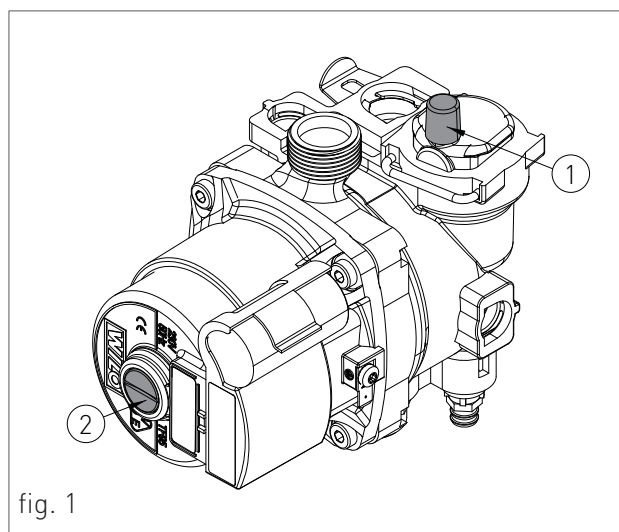

fig. 1
2. slightly loosen the cap of the circulator jolly valve (1-fig. 1) to release the air from the system;
8. Unscrew the circulator cap (2-fig.1) to release any air bubbles and close it to prevent water leakage;